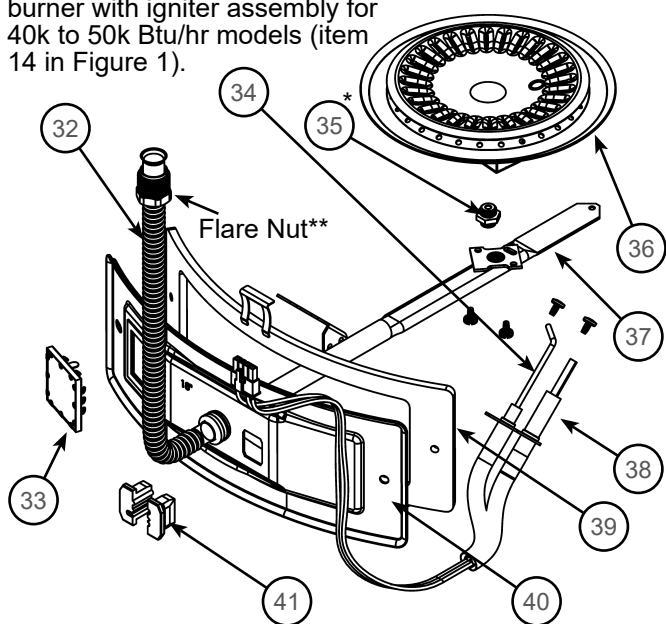
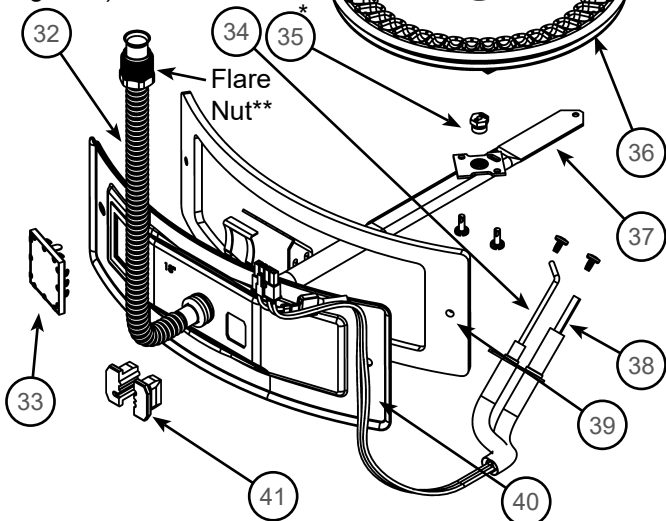

Figure 57.
Figure 58.
- 14 Manifold Door Assembly (behind outer door) (see Figure 3 and Figure 4) (see also Figure 57 and Figure 58)
- 32 Flexible Manifold Tube (see Figure 3 and Figure 4) (see also Figure 57 and Figure 58)
- 34 Flame Sensor Rod (see Figure 3 and Figure 4) (see also Figure 57 and Figure 58)
- 35 Gas Orifice (see Figure 3 and Figure 4) (see also Figure 57 and Figure 58)
- 36 Sheet Metal Burner (see Figure 3 and Figure 4) (see also Figure 57 and Figure 58)
- 37 Gas Manifold (see Figure 3 and Figure 4) (see also Figure 57 and Figure 58)
- 38 Hot-Surface Igniter (see Figure 3 and Figure 4) (see also Figure 57 and Figure 58)
- 39 Manifold Door Gasket (see Figure 3 and Figure 4) (see also Figure 57 and Figure 58)
- 40 Manifold Door (see Figure 3 and Figure 4) (see also Figure 57 and Figure 58)
- 41 Two Piece Grommet With Clip (see Figure 3 and Figure 4) (see also Figure 57 and Figure 58)